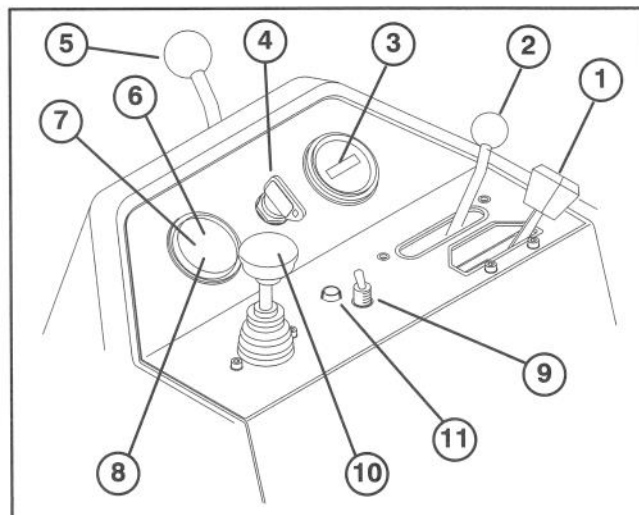

Figure 18
Choke Control (Fig. 18) – When starting a cold engine, move choke control forward. After engine starts regulate choke to keep engine running smoothly. As soon as possible, move choke rearward.
Functional Control Lever (Fig.18) – Provides two (2) traction selections, plus a “NEUTRAL” position. It is permissible to shift from mow to transport or transport to mow (not to neutral) while the Greensmaster 3200 is in motion. No damage will result.
Hour Meter (Fig.18) – Indicates the total hours of machine operation. The hour meter starts to function whenever the key switch is rotated to “ON”.
Ignition Switch (Fig. 18) – Insert key into switch, turn clockwise as far as possible to “START” position to start engine. Release key as soon as engine starts; key will move to “ON” position. Turn key counter–clockwise to “OFF” position to stop engine.
Steering Arm Locking Lever (Fig.18) – Rotate lever rearward to loosen adjustment, raise or lower steering arm for operator comfort, then, rotate lever forward to tighten adjustment.
Water Temperature Light (Fig. 18) — Light glows and engine automatically shuts–down when engine coolant temperature gets too high.
High Temperature Override Button (Fig. 18) —If engine kills due to an over heat condition, press override button in and hold until machine can be moved to a safe location and allowed to cool down.
Two Speed Transport Switch (Fig. 18) – When switch is moved to forward position, engine will run at maximum engine speed (2800 rpm). When moved to rear position, engine will run at a slower engine speed (2300 rpm) for quieter operation.
Battery Warning Light (Fig. 18) – Light glows if battery charge is low.
Oil Pressure Light (Fig. 18) – Light glows if engine oil pressure drops below a safe level.
Raise / Lower – Mow Control (Fig 18) – Moving control forward, with functional control lever in MOW, lowers the cutting units and starts the reels. Pull back on control to stop reels and raise cutting units. During operation reels can be stopped by pulling back on control momentarily and releasing. Restart reels by moving control forward.